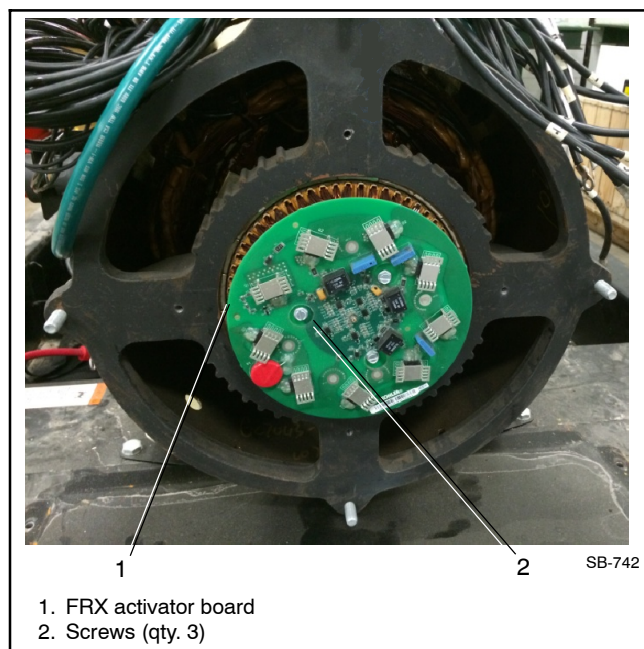

Figure 2 Removing the FRX Activator Board
- 3.2 Remove the 3 screws and the existing FRX activator board from the exciter armature. See Figure 2. The existing FRX activator board and 3 screws will not be reused.